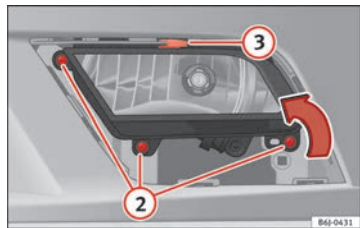

Fig. 172 Fog light.
- Remove the bolts (3x) ⇒ Fig. 172 ② to remove the fog light.
- Remove the metal clip situated on the upper part of the fog light pulling towards the exterior of the vehicle ⇒ Fig. 172 ③. ■